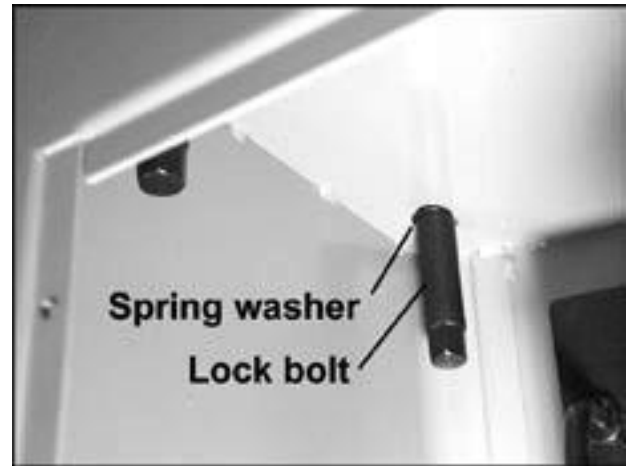

Fig. 2
2. Use three lock bolts and spring washers to firmly fasten the jointer to the stand. The bolts are threaded up through the holes in the stand into the base of the jointer. See Figure 2. Use a wrench to tighten.